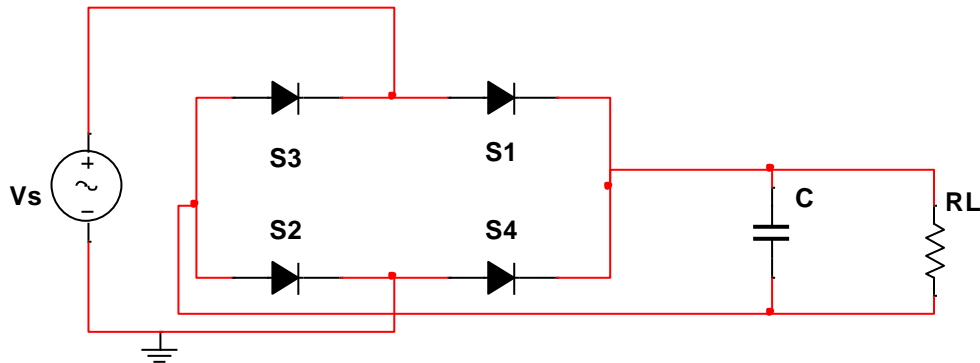

Figure 7: Full-wave Bridge Rectifier.
- 1- Construct the circuit shown in Figure 7 by using the **Bridge rectifier**. (Be sure to observe the capacitor polarity).